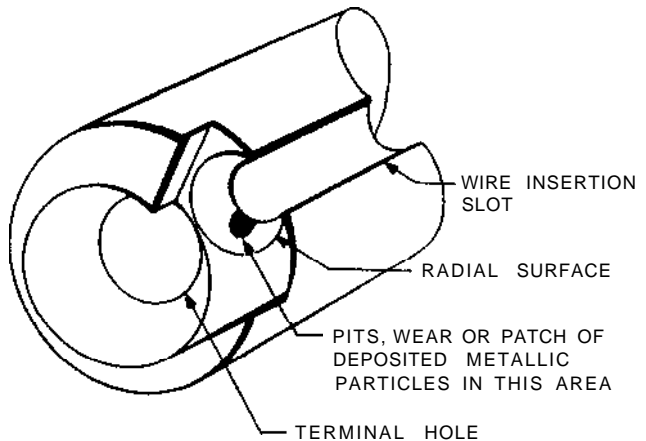

Fig. 2—Outer End of Wrapping Bit—Conditions Which May Occur on Radial Surface
- (b) The outer end of the stationary sleeve and wrapping bit shall be free of corrosion and shall not be appreciably worn or deformed. The radial surface at the outer end of the wire insertion slot of the wrapping bit shall be bright and shall be free from pits, excessive wear, and patches of metallic particles deposited during wire-wrapping operations (Fig. 2).